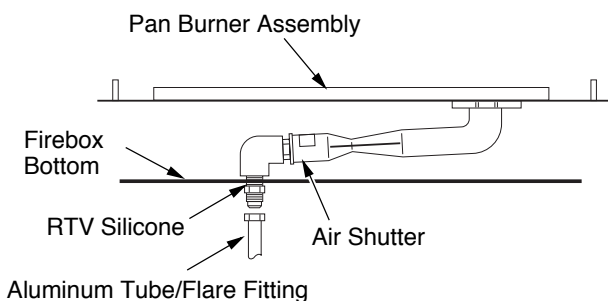

Figure 3 - Removing/Applying RTV Silicone and Locating Air Shutter
1. Inside the control compartment under firebox, locate aluminum tube with flare fitting and adapter fitting on the left side. Loosen flare fitting and disconnect aluminum tube from adapter fitting. Use a 3/4" open end wrench (see Figure 3).
2. Carefully cut away the RTV silicone from the adapter fitting where it passes through the firebox bottom (see Figure 3). Remove adapter fitting from elbow fitting by turning counterclockwise. Use an 11/16" open end wrench.
6. Locate air shutter at end of burner manifold (see Figure 3). Loosen screw and adjust air shutter to 3/16" open position. Retighten screw.
3. Apply RTV silicone to adapter fitting where it passes through the firebox bottom (see Figure 3, page 2).